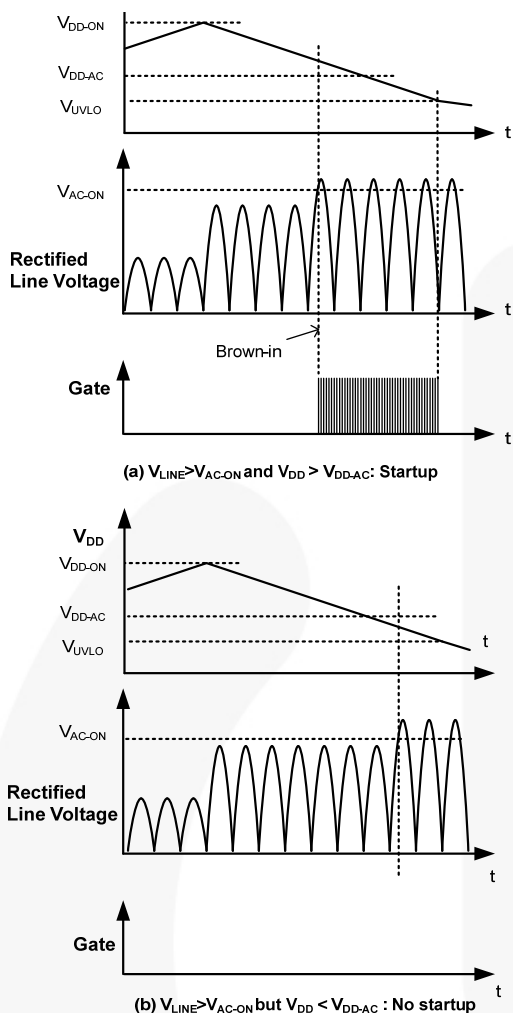

Figure 34. Timing Diagram for Brown-in Function
- V_{DD} must be larger than V_{DD-AC} to start, even though the sensed line voltage satisfies Equation (2), as shown in Figure 34.